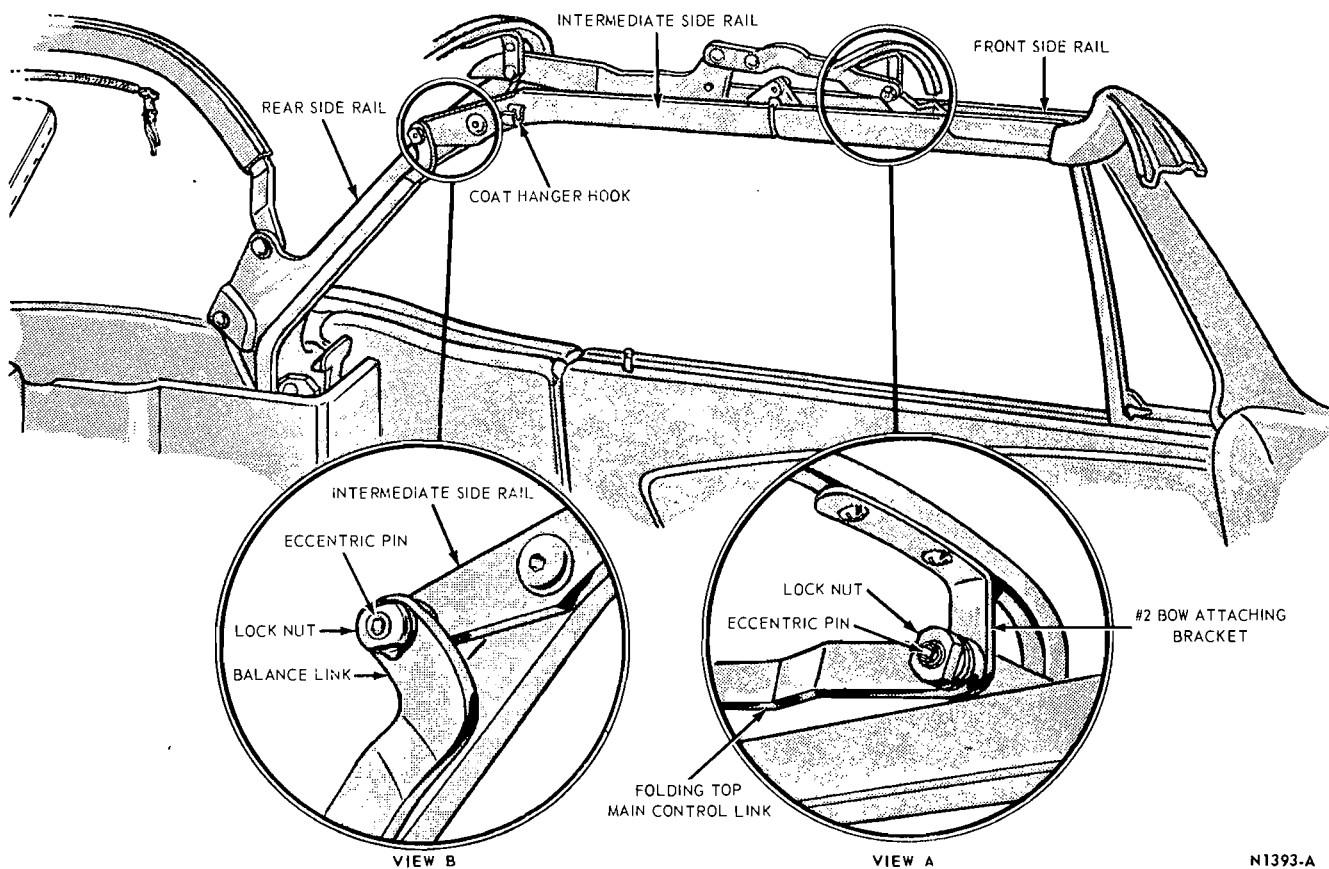

FIG. 4—Top Side Rail Adjustments—Mustang
1. With the door glass properly adjusted, loosen the eccentric nut (View B, Fig. 4), and rotate the eccentric pin to obtain a $3/8$ -inch parallel dimension between the front door glass and the front and center side rails.
The balance link is retained to the intermediate side rail assembly with an eccentric pin (Fig. 4, View B). Rotation of the eccentric pin raises or lowers the side rail over the door glass area. Clearance between the glass frame and side rail is $3/8$ inch constant.
Raise the top and lock it to the windshield header. Loosen the lock nut (View A—Fig. 4), and rotate the eccentric pin to raise or lower the top material along the door glass line. The specified clearance for the top material to door glass frame is $1/8$ inch. Hold the eccentric and tighten the lock nut.